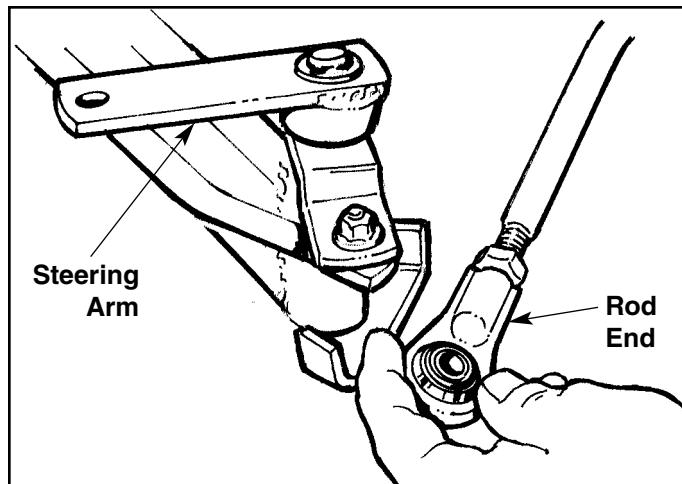

Figure A-9. Inspect Rod End
- Inspect the rod end for free movement/rotation of the rod end bearing, and replace the rod end if necessary (Figure A-9).